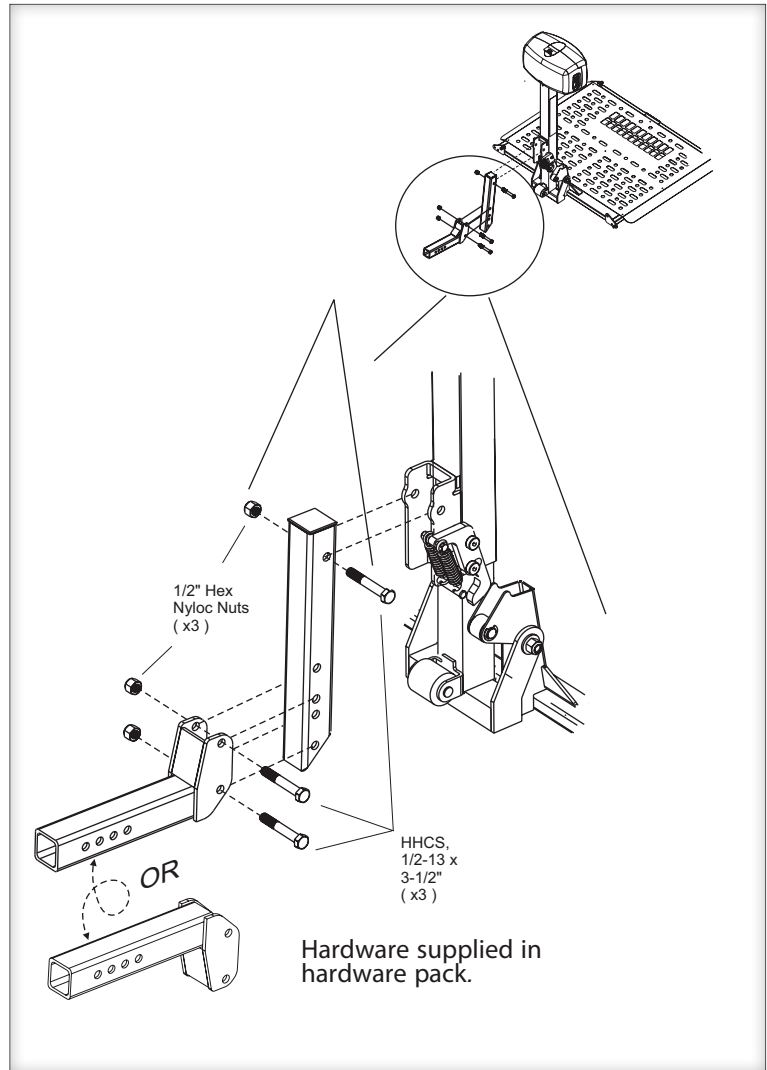

Figure 24-1
- 1. Attach hitch adapter to hitch post** orientated properly according to the application's Hitch Height. [Figure 24-1]